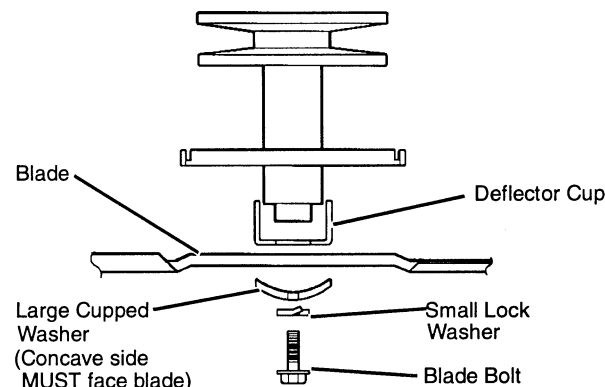

FIG. 23
- Reassemble hex bolt, two washers and deflector cup in exact order as shown. (See Fig. 23)